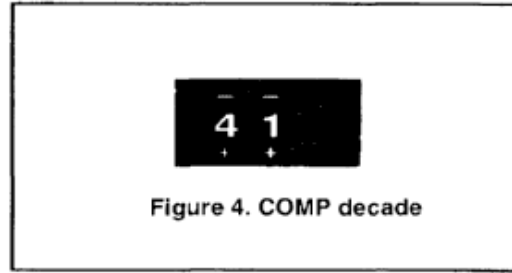

Figure 4. COMP decade
24. Select "41" on COMP decade (D-2) (Figure 4).